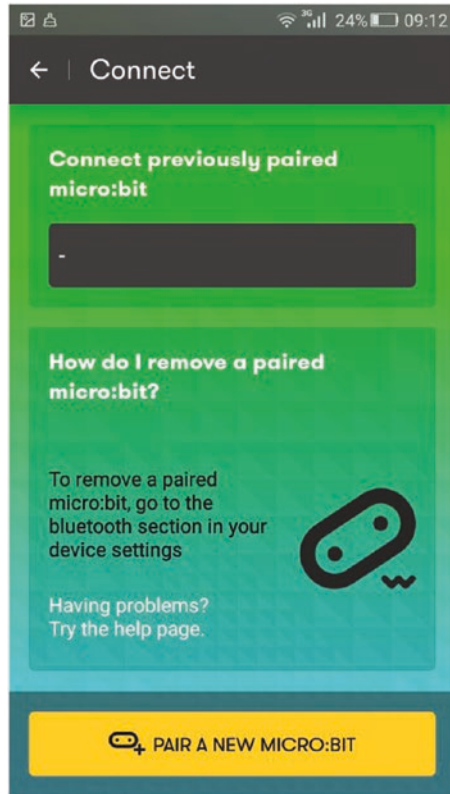

Figure B-2. Tapping the PAIR A NEW MICRO:BIT button
3. Tap the PAIR A NEW MICRO:BIT button (see Figure B-2).